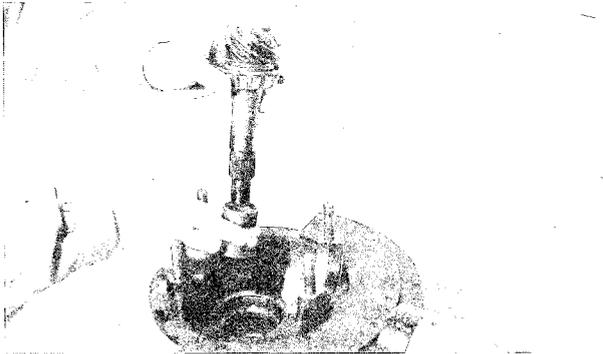

Fig. 9-15 Installing pinion and collapsible spacer
1. Install the collapsible spacer onto the drive pinion and install them in the carrier, as shown in Fig. 9-15.